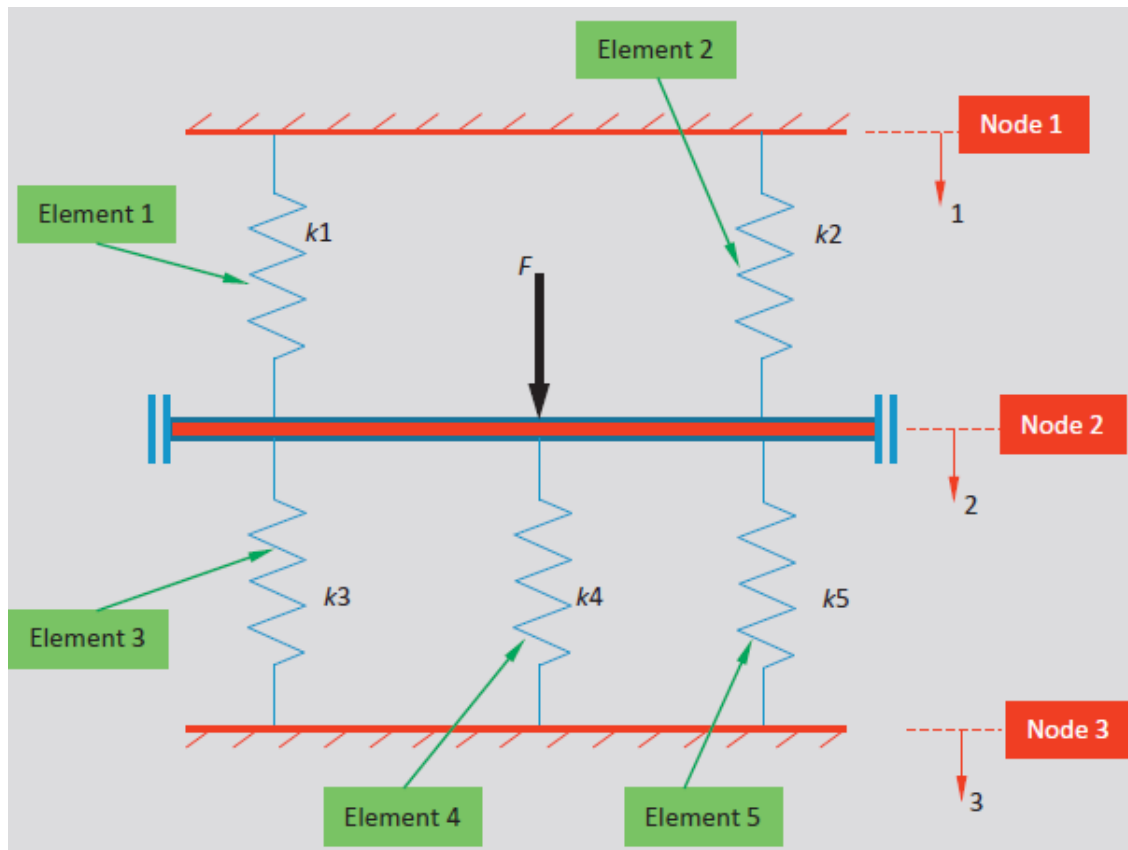

Figure P1.13
13. Determine the field values (nodal displacements and internal forces) for the following structural system shown in **Figure P1.13**. Take $k_1 = 1300$ N/m, $k_2 = 1400$ N/m, $k_3 = 1500$ N/m, $k_4 = 1600$ N/m, $k_5 = 1700$ N/m, $F = 8000$ N.